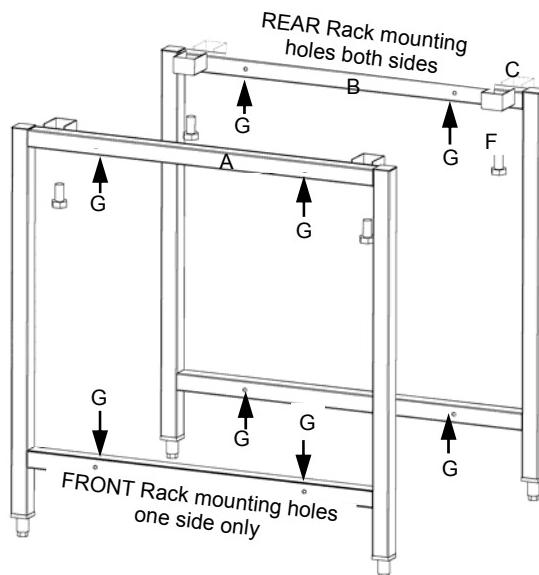

Figure B.2
- 4) Fit the other stand frame (B) with screws and washers (E).
**NOTE:** Take care which way around the frame is. For 26" oven have the oven supports facing the racks, for 30" oven have the supports (C) facing away from racks (refer figure B.2).